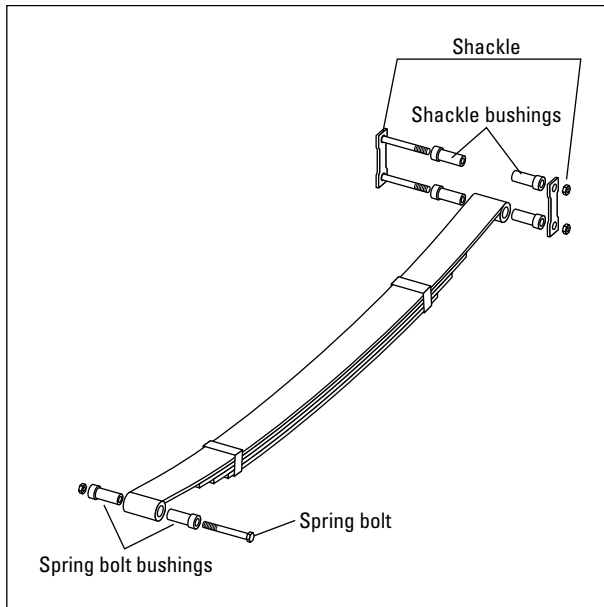

Figure 16-9: Leaf springs bend but don't break because they can slide flexibly on one another.
- **Leaf springs**, still found on pickup trucks and pickup-based SUVs, are usually made up of several relatively thin metal plates, called *leaves*, piled one on top of the other. The reason for using these layers instead of one thick metal bar is that, as a bar bends, the top of the bar has to stretch a little. Unlike a single, thick bar, which, if bent too far, would split from the top down, leaf springs are more flexible; each leaf bends independently, and the leaves can slide on one another instead of breaking (see Figure 16-9).